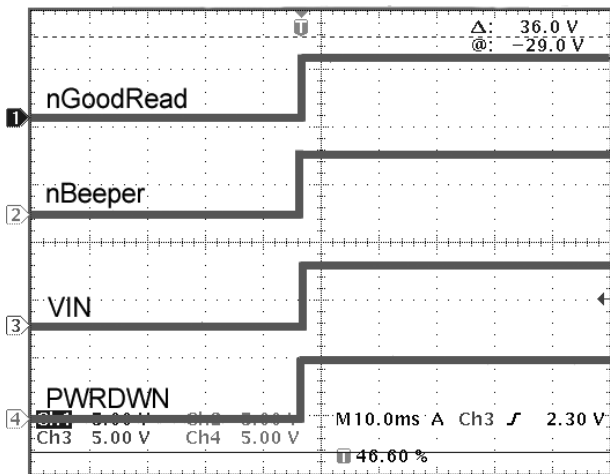

Figure 21. Power First Applied of TTL Version (Vin= 5V)
The TTL version of the decode engine does not have an on board microcontroller to control the power to the decode platform and imaging engine. As such, the TTL version can only enter Boot Mode in response to signals from the host (nTrig or nWake). When VIN is initially applied with the nWake and nTrig signals held high, the unit will be in the Power Down Mode. In this state, the PWRDWN signal will be high and all other output signals will be in their default state. By bringing either the nTrig or nWake signal low, power will be applied to the entire system and the unit will enter the Boot Mode. The nTrig or nWake signal will need to be held low continuously for approximately two seconds at which time the decode engine will take control of the internal power circuitry. At this point, the nTrig and nWake signals can be used with out interrupting the power. Figures 21 - 23 show the state several host signals when power is first applied and when the unit enters boot mode.
**Notes:** In Figure 21 , the nGoodRead, nBeeper, and PWRDWN signals are high while in the Power Down Mode.